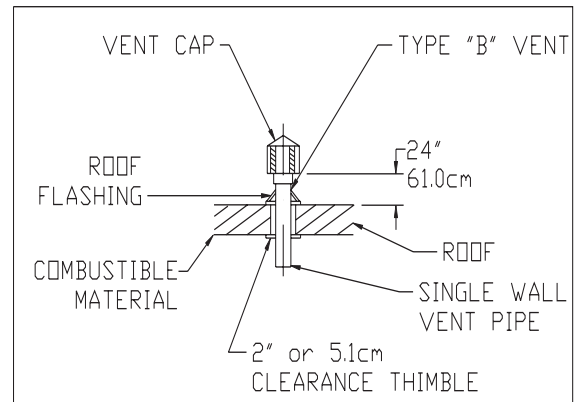

Figure 2.8.1
- \* Single-wall galvanized flue pipe or Dura/Connect single wall, flexible connectors must be used. The portion of the flue pipe which goes through combustible material in the building wall or roof must pass through a type "B" vent to maintain clearance (see figure 2.8.1 through 2.8.4).
- \* Vertical venting should be a minimum of 24 inches /61cm above the roof in an area that prevents snow blockage. See Figure 2.8.1